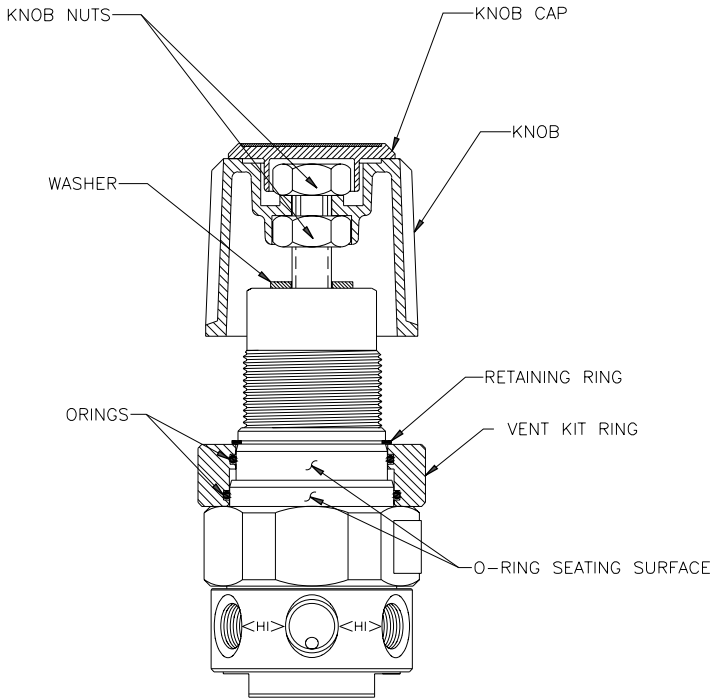

Figure 1. Regulator with knob and captured vent kit.
2. Wipe the regulator bonnet with a clean rag to remove foreign matter. Inspect the bonnet for scratches and dents in the o-ring seating area (see Figure 1 on the next page). Do not install the vent kit on the regulator if the bonnet is damaged in the o-ring seating area.